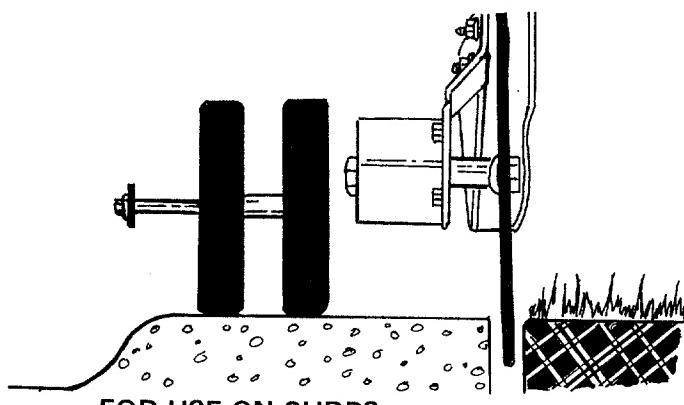

FIGURE 18
- Move the front wheels all the way to the left when using the edger on a curb. See figure 18.